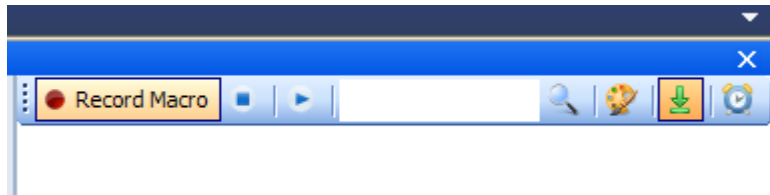

Figure 2-32. Recording a macro
2. In the Rx/Tx log panel tool bar on right side of the device view in Command Console click the “Record Macro” button (Figure 2-32).